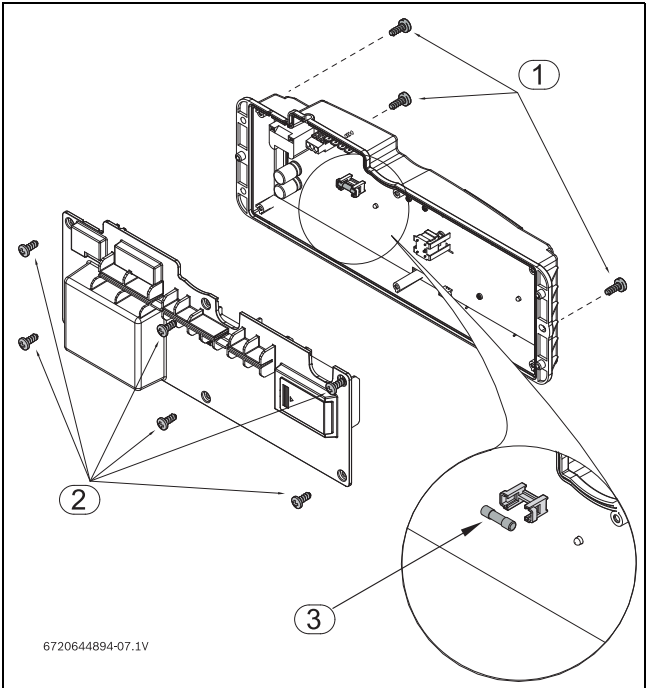

Fig. 44 Fuses position
- Remove the six screws from the back cover of the control unit, see fig. 44, pos. 2.
- Check the fuses in the printed circuit board, see fig. 44, pos. 3.